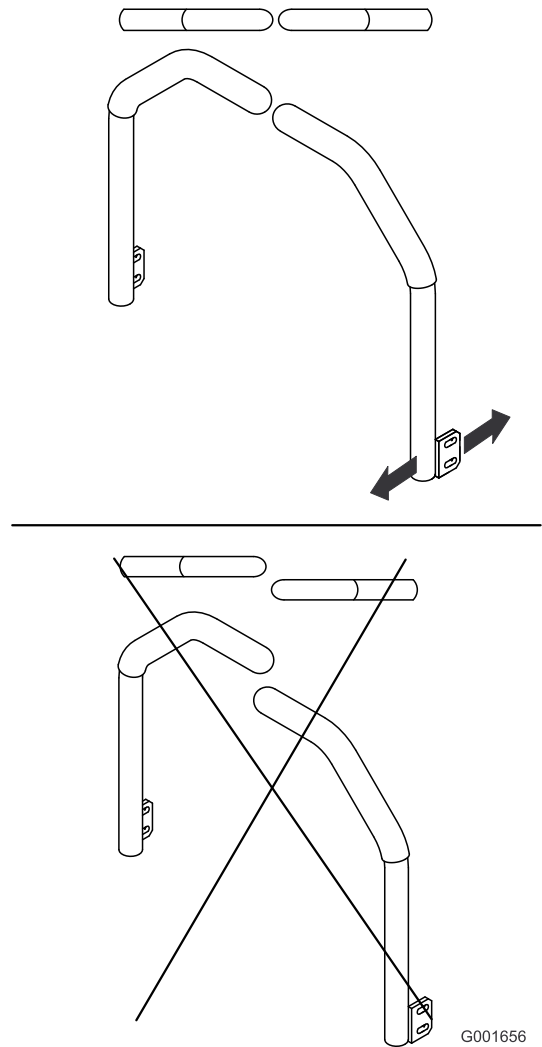

Figure 55
5. Adjust the control levers so that they line up and tighten the bolts, securing the levers to the posts (Figure 55).